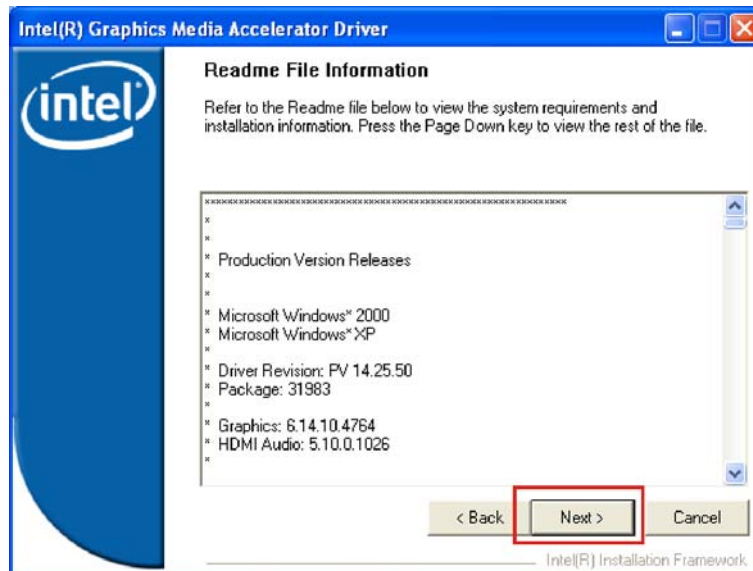

Figure 6-11: Graphics Readme File Information
Step 8: The Readme File Information window appears (Figure 6-11).
Step 9: Click **NEXT** to start installing the graphics drivers (Figure 6-11).